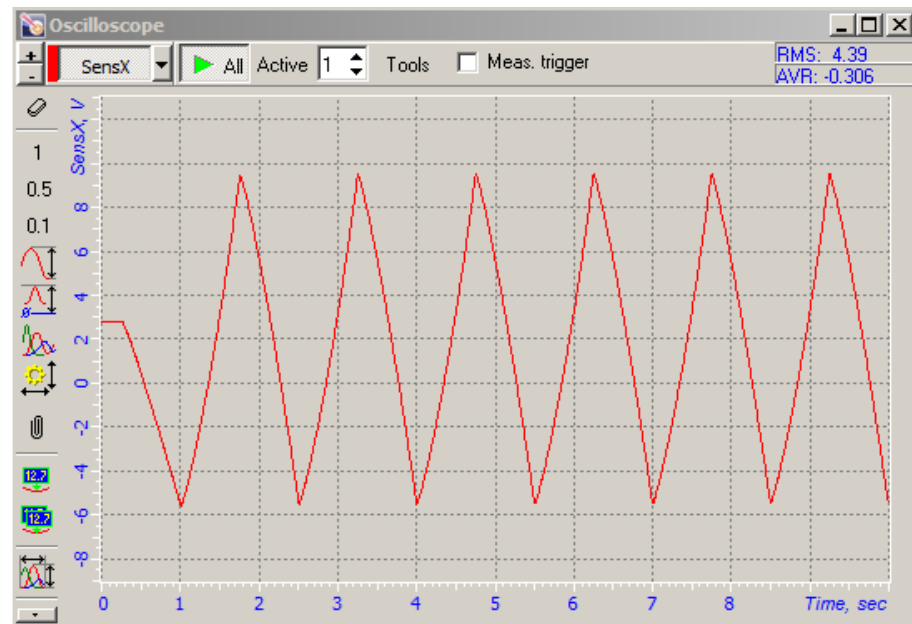

Fig. 1-11. Verification of the X-sensor adjustment.
- If the signal peak-to-peak amplitude is not less 13 V and the signal average is outside the range ± 1 V (Fig. 1-11), adjustment of the X-sensor is to be done (see i. 1.3.2 on page 221).